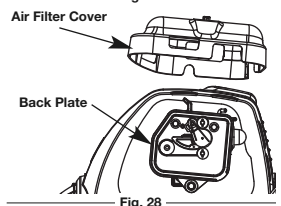

Fig. 28
2. Remove the air filter (Fig. 28).
5. Reinstall the air filter cover. Position the hooks on the air filter cover to the top of the back plate and lower the air filter cover down so that the air filter screw aligns with the screw hole on the back plate (Fig. 28).